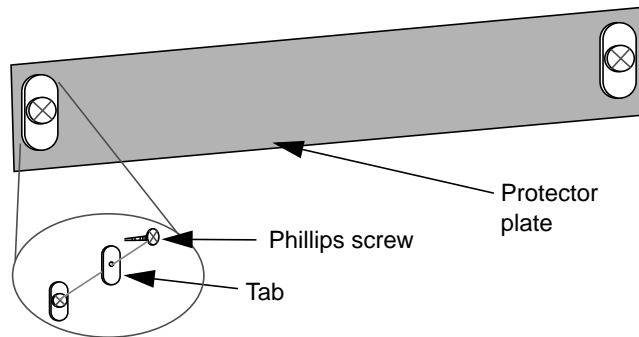

Figure 2-6. Removing the Protector Plate
- a.** Remove the protector plate from the slot where you are installing the adapter, as shown in Figure 2-6: